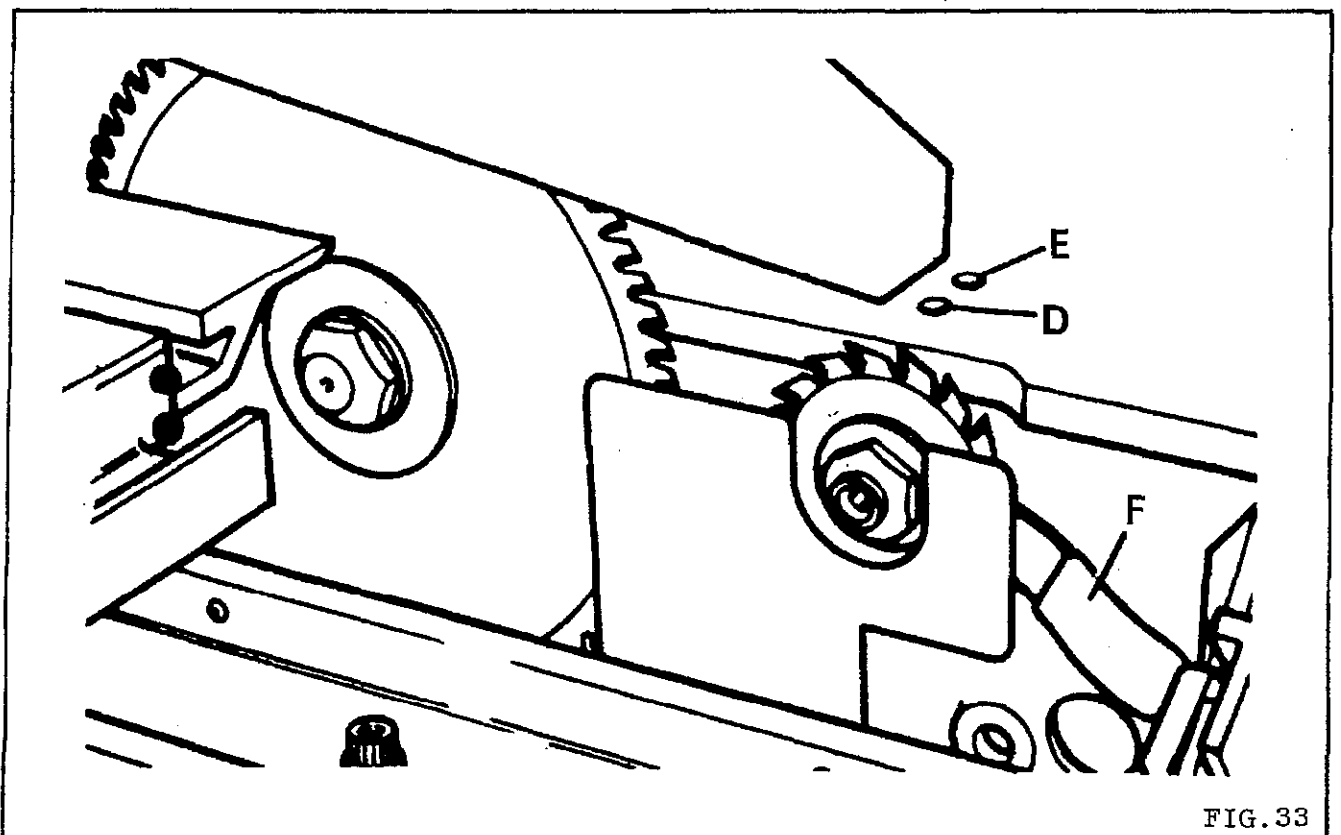

FIG. 33
- 2 Lateral adjustment to scoring blade is by releasing 8mm socket head cap screw lock "D" in FIG.33 (8mm allen key supplied) then adjust blade laterally by 8mm socket head cap screw "E". When set correctly, re-lock socket head cap screw "D".
- 3 Adjust scoring blade vertically by loosening 8mm socket head cap screw lock "D" in FIG.33, then move blade vertically by lever "F". When set correctly, re-lock socket head cap screw "D". Correct vertical adjustment is attained when the scoring saw scores the full underside length of panel.